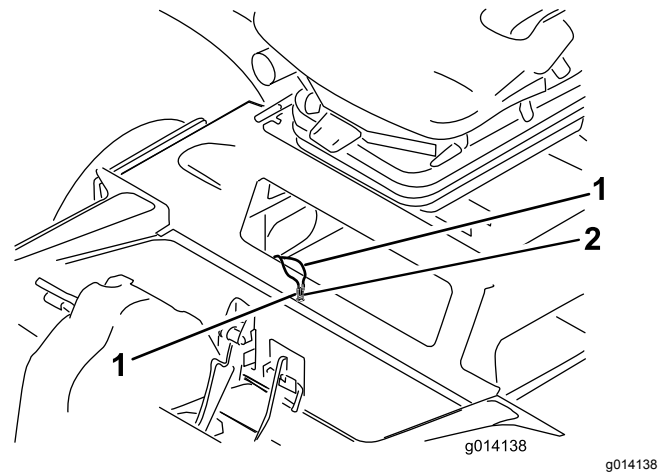

Figure 58
3. Locate the two capped counterbalance jumper wires inside the compartment (Figure 58)